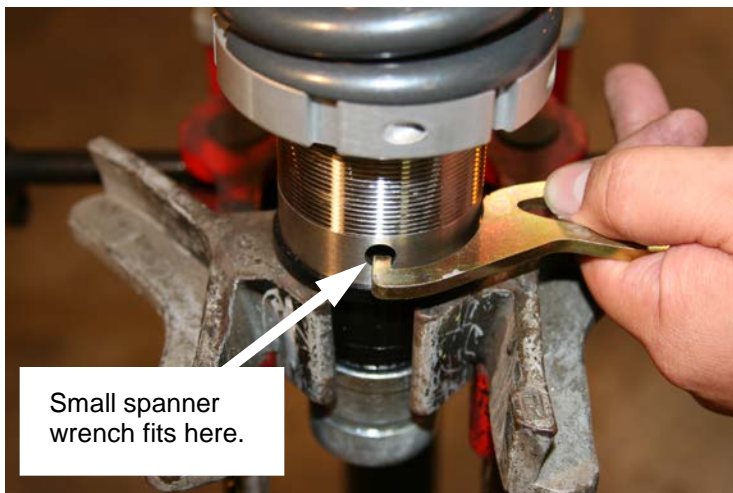
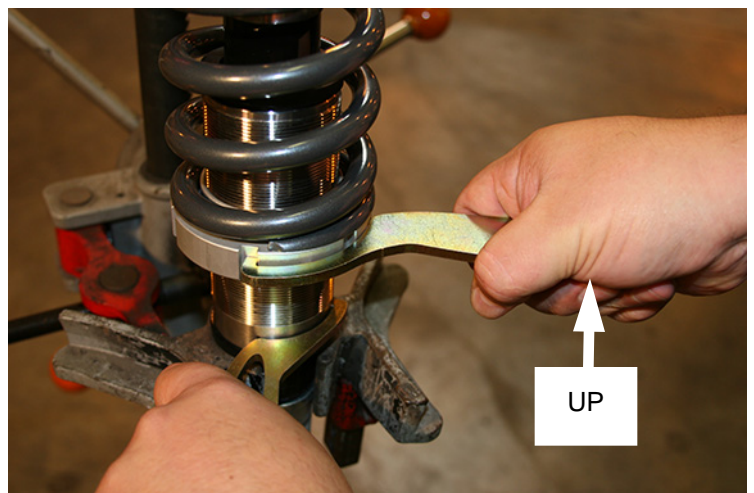

Figure 5
Figure 6
8. Raise the lower spring collar up to the spring, until the spring has approximately 1/8" free play between the upper and lower perches, then thread upward (*tighten*) the lower perch 8 to 10 full turns to load the spring. There are two spanner wrenches in the kit. The smaller wrench is used to hold the threaded sleeve (Figure 5) and keep it from turning. The larger wrench is used to turn the spring collar. (Figure 6)
19. Raise the lower spring collar up to the spring, until the spring has approximately 1/8" free play between the upper and lower perches, then thread upward (*tighten*) the lower perch 8 to 10 full turns to load the spring. There are two spanner wrenches in the kit. The smaller wrench is used to hold the threaded sleeve (Figure 5) and keep it from turning. The larger wrench is used to turn the spring collar. (Figure 6)
B) If you are having difficulty ADJUSTING the vehicle HEIGHT, review the use of the two spanners (included) as shown in Figure 6. Also SPRAY a light application of Boeshield T-9 © to lubricate the threaded sleeves and perch nuts. We suggest the use of this excellent dry lubricant/protectant product.
C) PROTECT the coil-over bodies with regular applications of Boeshield T-9 ©. First RINSE OFF any caked-on grime and let the suspension DRY if possible per (A) above. Then apply a liberal coating of Boeshield T-9 © to the strut housings, threaded sleeves and perch nuts. Allow it to DRY without wiping. The fluid will evaporate, leaving a protective layer of paraffin wax coating.